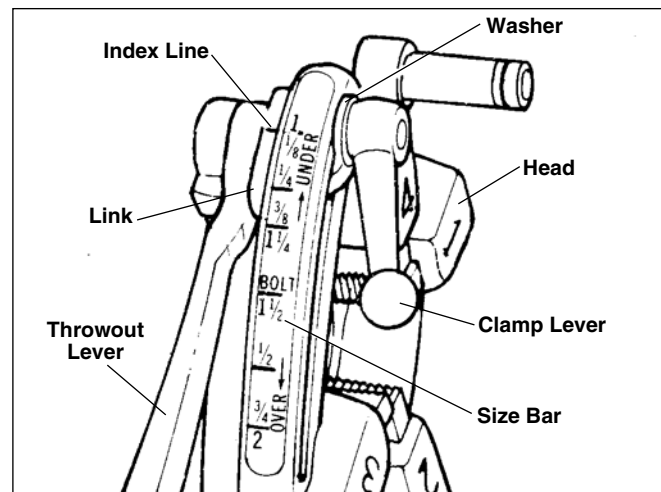

Figure 8 – Universal Quick-Opening Die Head
6. Quick-Opening 811A Die Head *(Figure 8)* – When thread is completed, rotate throwout lever to OPEN position, retracting dies.
The No. 811A Universal Die Head (*Figure 8*) for right hand threads requires four sets of dies to thread pipe ranging from $\frac{1}{8}$ " through 2". One set of dies is required for each of the following pipe size ranges: ($\frac{1}{8}$ " and $\frac{3}{8}$ "), ($\frac{1}{4}$ " and $\frac{3}{4}$ " and $\frac{1}{2}$ " and $\frac{3}{4}$ ") and (1" through 2"). Bolt threading requires a separate set of dies for each bolt size. No bolt dies are available for left hand universal die heads.